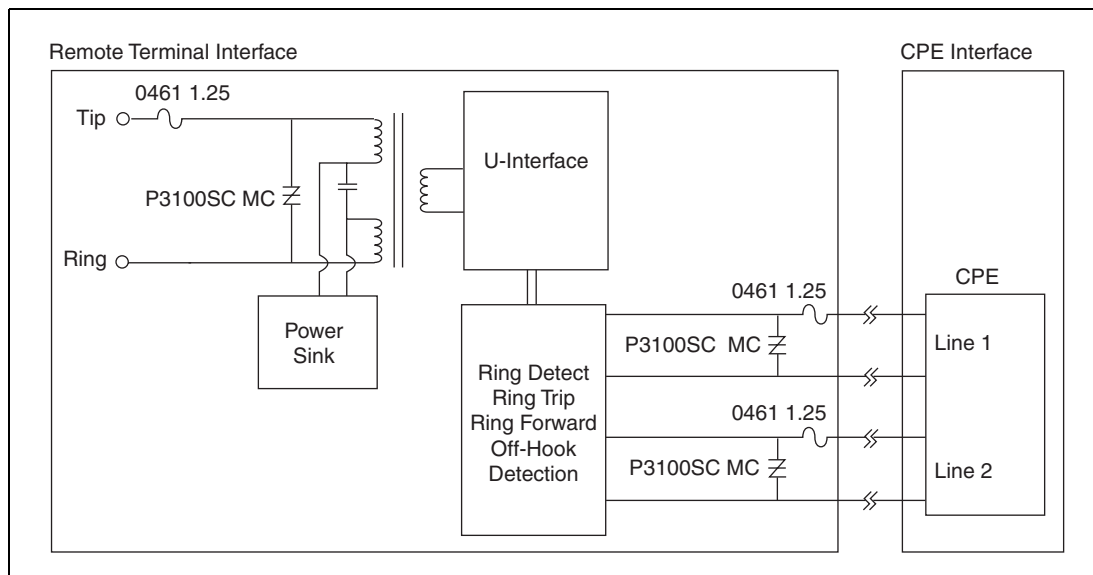

Figure 3.15 Pair Gain RT Protection
For Customer Premises (CP) and Remote Terminal (RT) interfaces where an earth ground connection is not used, only metallic protection is required. Figure 3.15 shows metallic protection satisfied using a single P3100SC MC across Tip and Ring and a single **0461** 1.25 on either Tip or Ring to satisfy metallic protection.